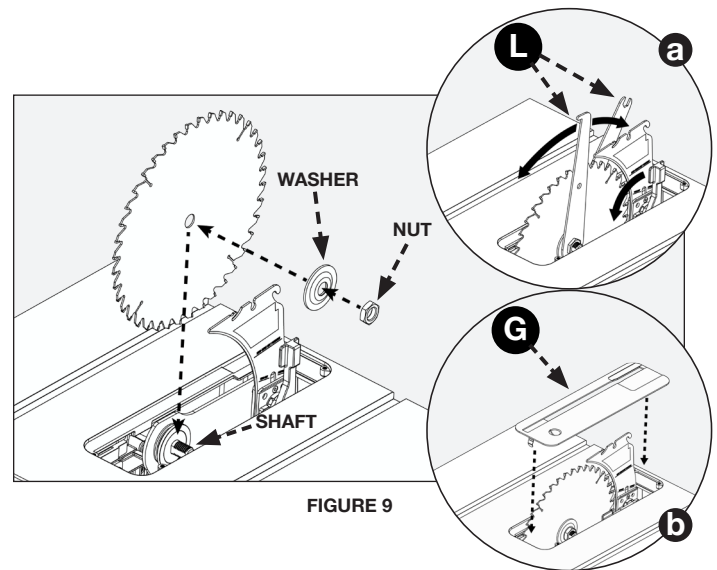

FIGURE 9
Ensure riving knife lock lever is in unlocked position (Fig. 9).
Remove nut and the outer flanged washer from shaft assembly. Place blade on the arbor shaft with the teeth on the blade pointing toward the front of the saw. SHOPMASTER logo on the blade will be facing toward the left side of the saw. Place flanged washer on the shaft with the large side of the washer towards the blade, then secure blade assembly with nut. (Fig. 9) Tighten nut with blade wrenches (L) from the on-board storage area on the right side of the saw. Open end wrench will fit on the arbor shaft between the inner flange washer and the motor assembly (if necessary, turn shaft to align flats on the arbor shaft to the wrench). Closed end wrench will fit on the nut. See Fig. 9a. Return wrenches (L) to on-board storage location. Return riving knife lock lever to locked position. Return throat plate (G) making sure to lock tab on rear of throat plate under table top as shown in Fig. 9b.